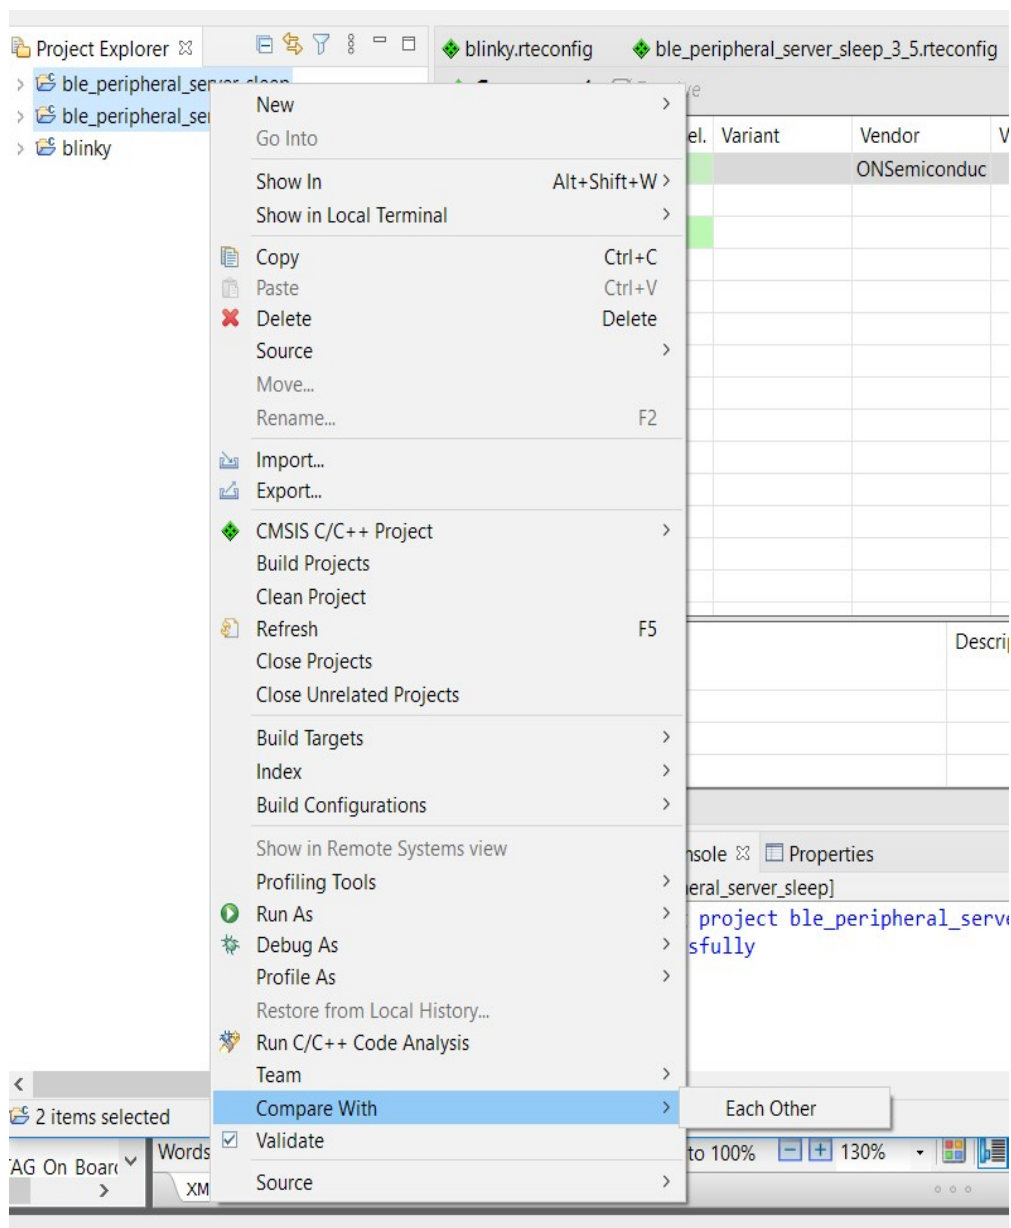

Figure 19. Comparing Your Sample Application to the Latest Version
- Compare your application to the latest sample from the CMSIS-Pack using the Eclipse **Compare With** feature, as shown in the "Comparing Your Sample Application to the Latest Version" figure (Figure 19), or with your preferred comparison tool.